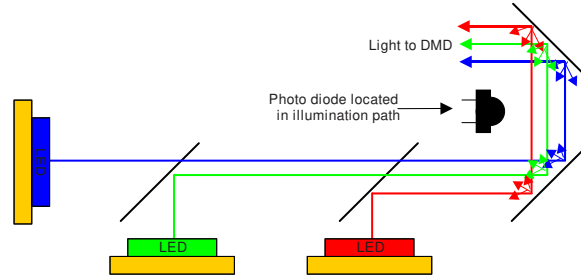

图 7-2. Photodiode Placement
- Ideally, a position in the illumination path (图 7-2) should be located that produces strong, but also balanced amplitude signal responses from each of the three LEDs at the system's target white point. Imbalance between the three channels due to non-ideal placement of the detector will limit dynamic range of the dimming system. The TIA supports an RGB trim function to help re-balance an imbalanced system. This feature is useful for completing the process of optimizing the balance of the amplitude signal responses from each LED. But it is still advisable to take care in the design of the illumination path such that the natural balance of the colors is as ideal as practical.